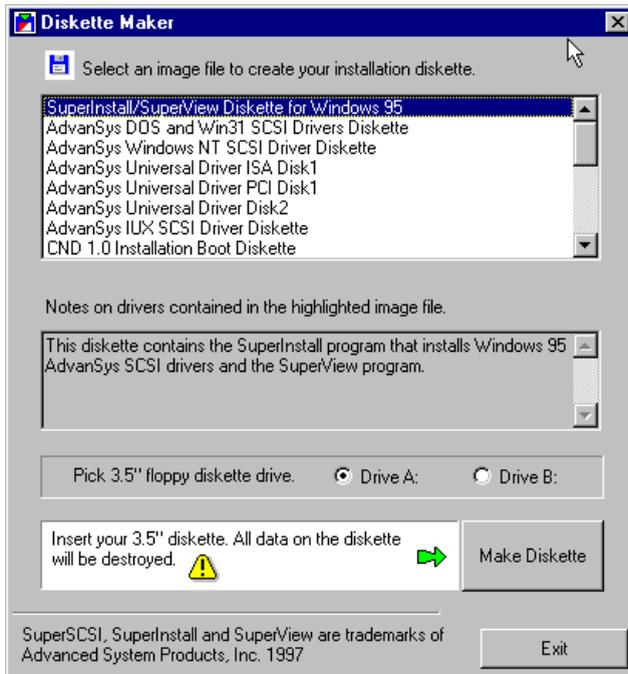

Figure 4-3: The Diskette Maker Window
4. The *Diskette Maker* window appears (see Figure 4-3).